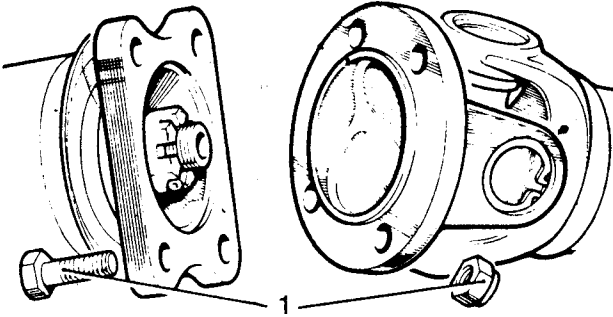

Fig H4.1
- (1) Refer to Fig H4.1. Remove the bolts and locknuts (1) from the coupling flanges at both ends of the shaft.
- (2) Withdraw the shaft.